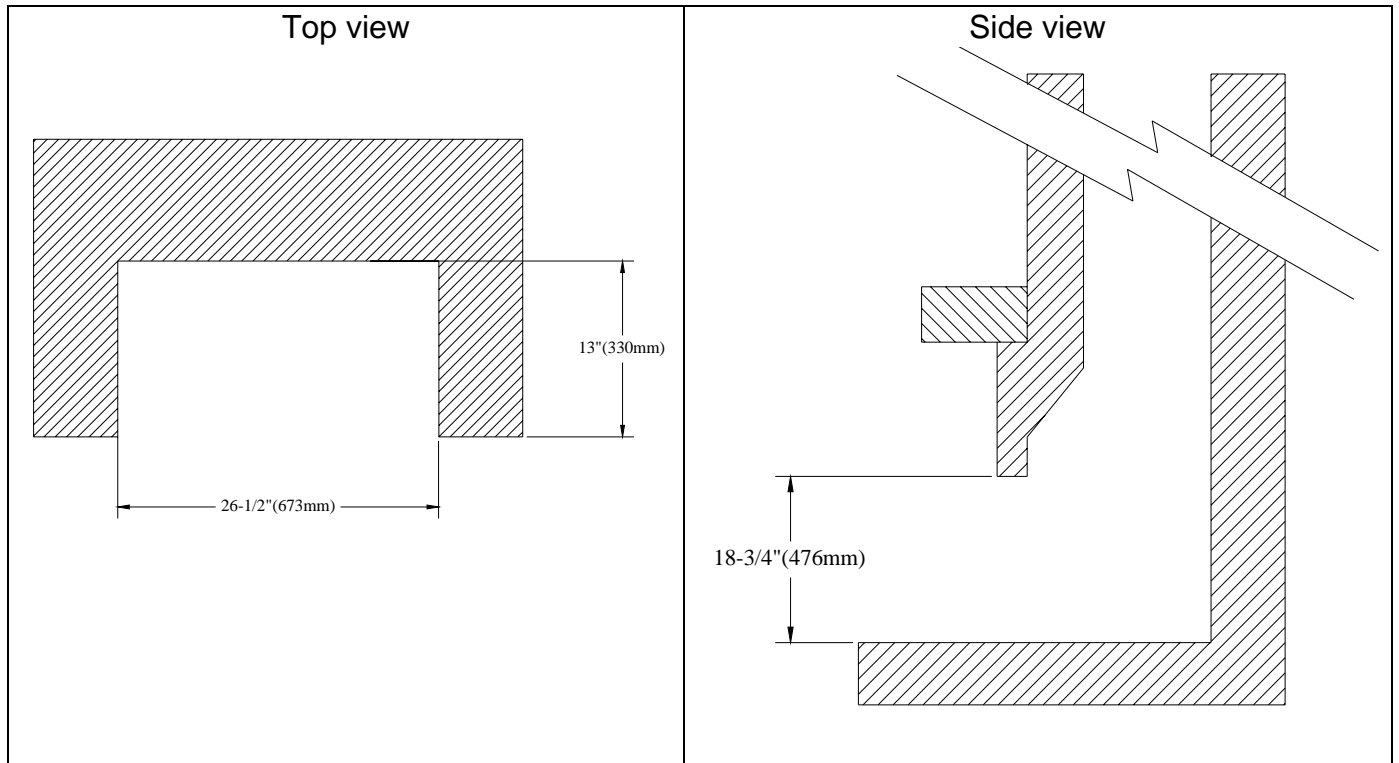

Figure 4
Inspect the fireplace to ensure the insert will correspond to the measurements (Figure 4).
- (figure 4)